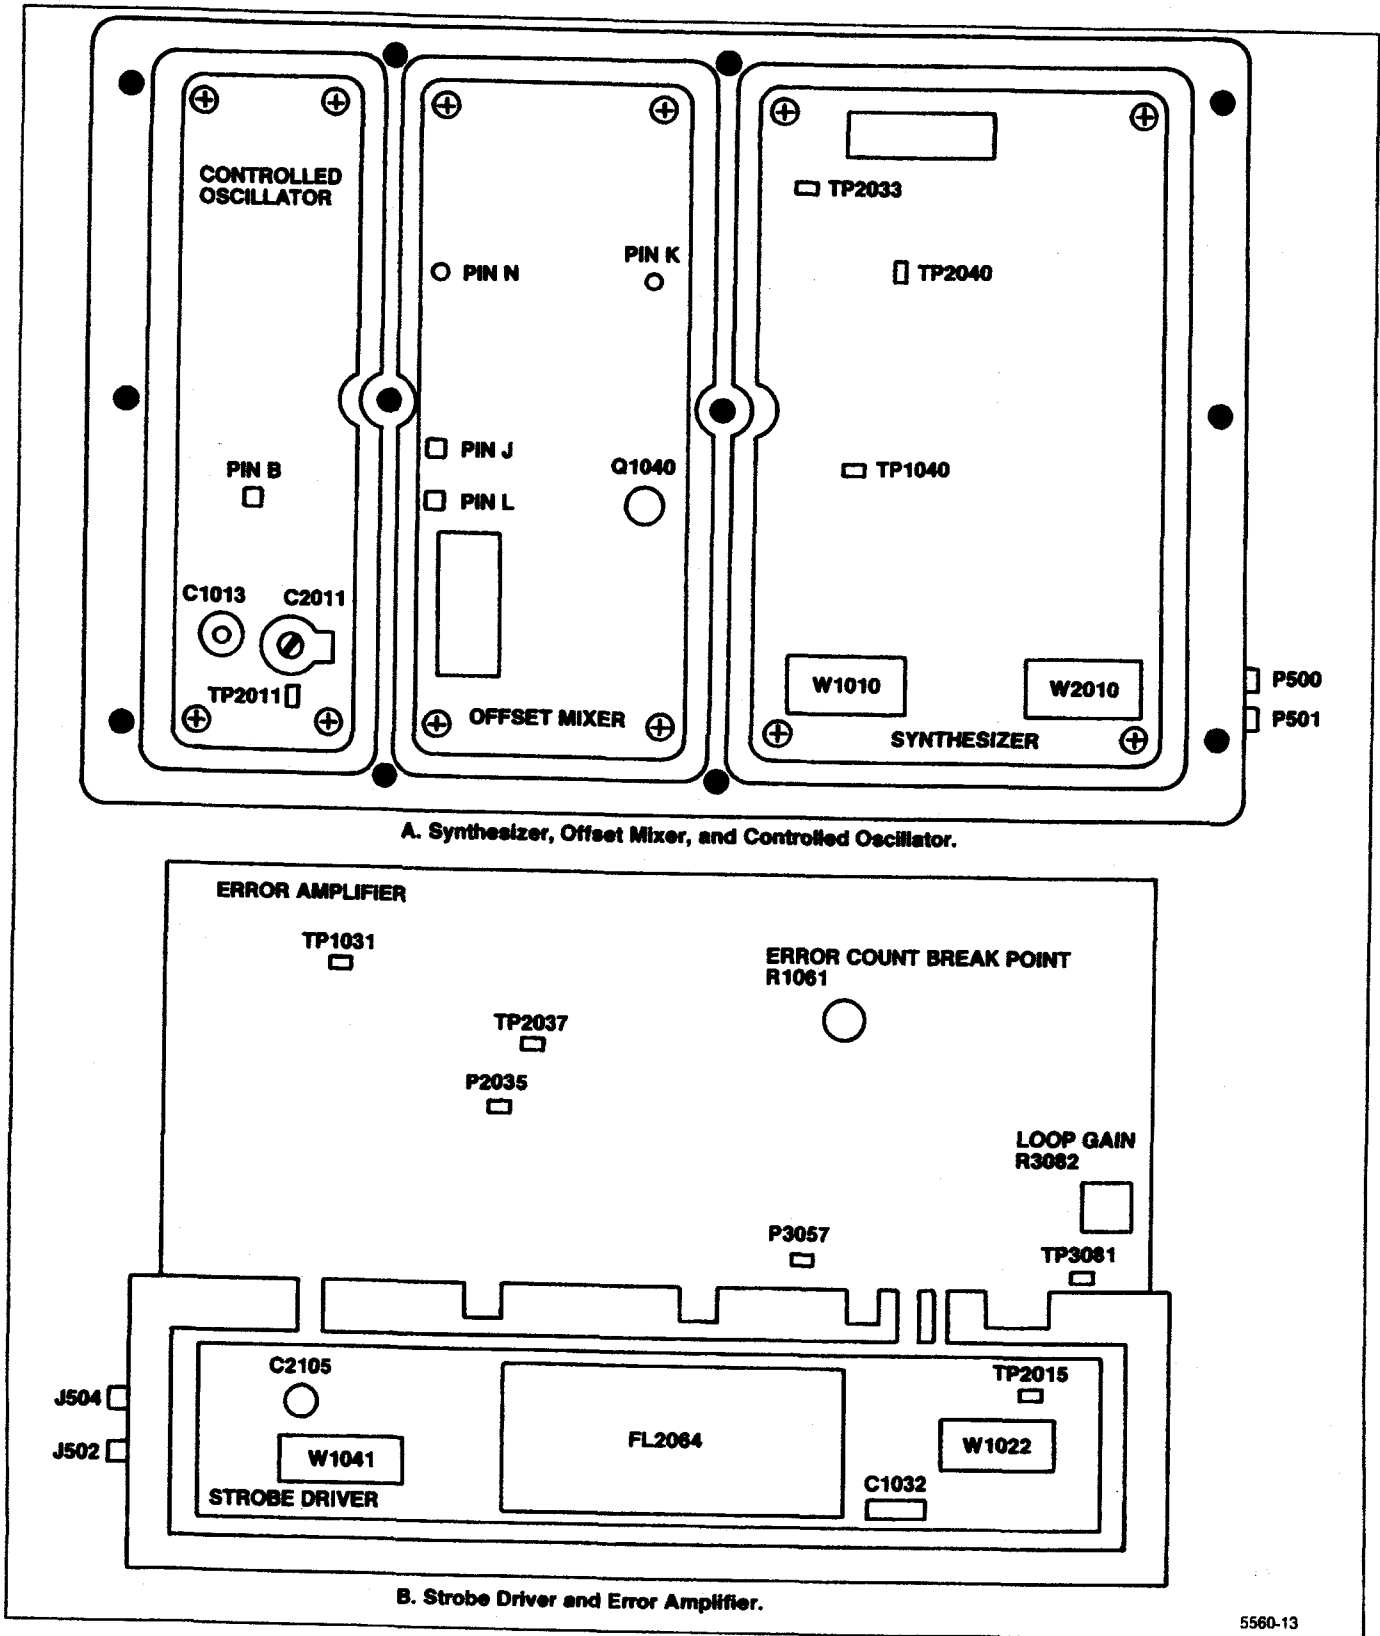

Figure 5-26. Phase Lock assembly adjustment and test point locations.
(1) Connect the Direct Input of the frequency counter to pin N (Figure 5-26) and set the counter controls for a count. Note the frequency.
(2) Connect the counter to pin K and note the frequency.